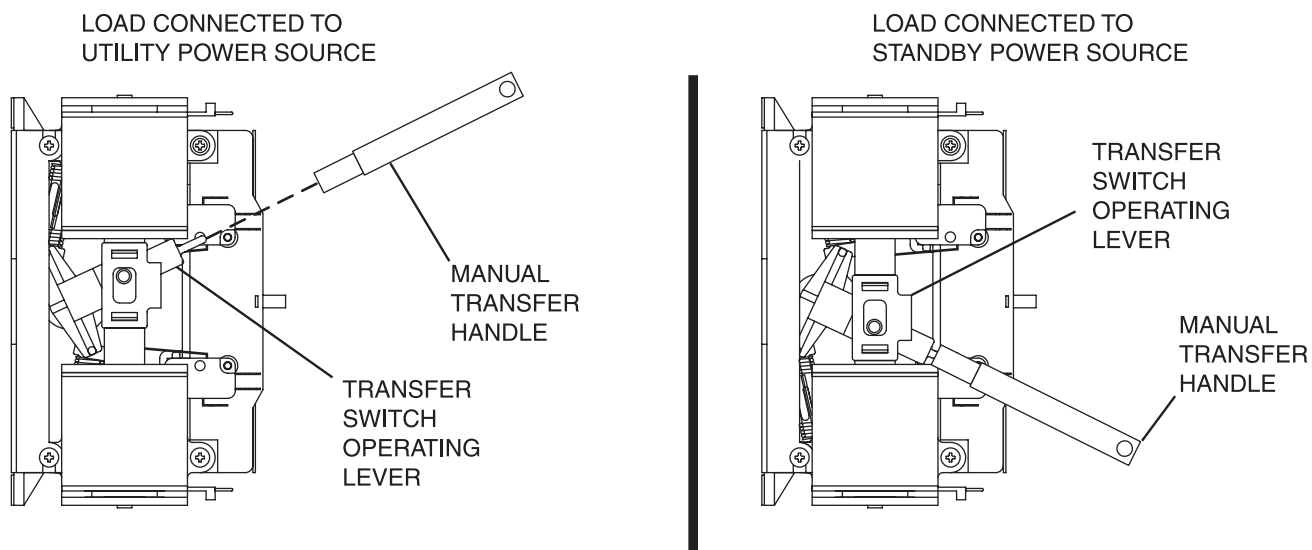

Figure 1. Manual Operation "V-Type" Switch
2. Verify that DIP Switch 2 (REMOTE NOT AUTO) on the circuit board is set to the OFF position (see Figure 1, Page 1.6-1).